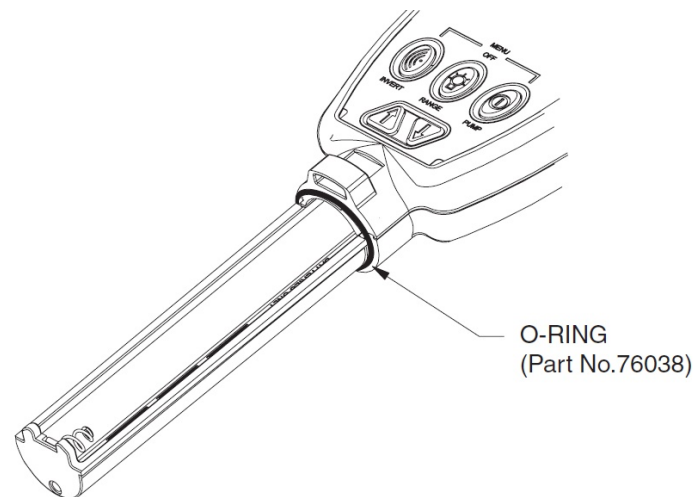

Figure 55: O-Ring Replacement
6. Check the O-ring (Figure 55: O-Ring Replacement) for damage and replace if necessary.